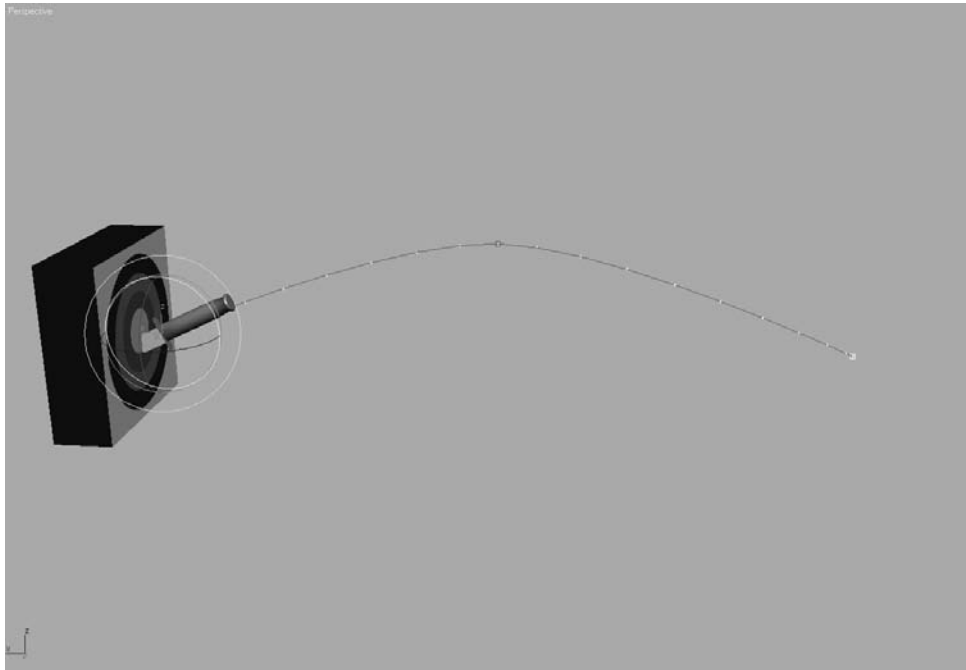

Figure 8.54
2. Open the Curve Editor, scroll down to find the X, Y, and Z Rotation tracks, and select them. Use the Horizontal Move tool to shift the keyframes at 0 to frame 10. Press N to deactivate the Auto Key. Figure 8.54 shows the Curve Editor graph for the knife.